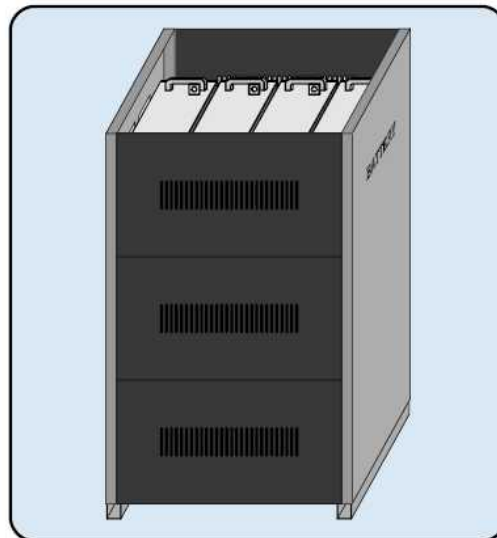

Figure 5
4. After installation is completed, checking all connections and voltage of battery are accurate. Then install right and left side panels. Shown as Figure 5.